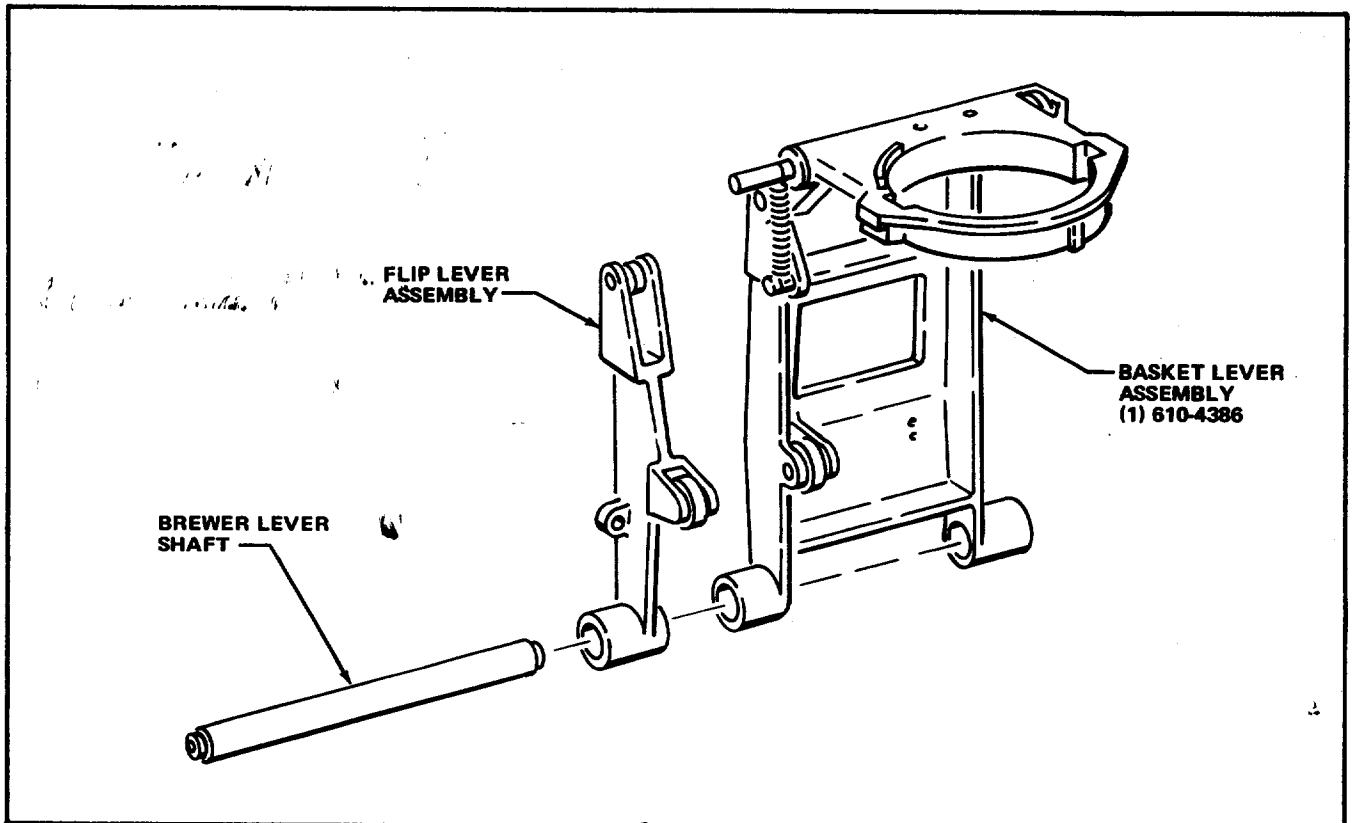

FIGURE 8
3. Remove the defective Basket Lever Assembly from the Brewer Lever Shaft and replace with the replacement Basket Lever Assembly, Part Number 610-4386, included in the Kit. See Figure 8.